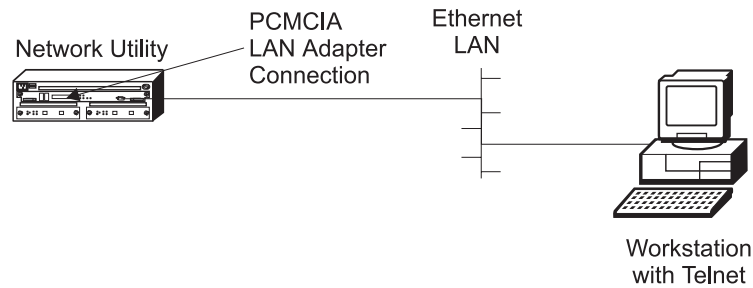

Figure 2-3. LAN Connection through the PCMCIA LAN Adapter
- Local cable from the Network Utility PCMCIA LAN adapter (the IBM EtherJet PC card) to a workstation or local Ethernet hub. Figure 2-3 on page 2-3 shows a version of this configuration.